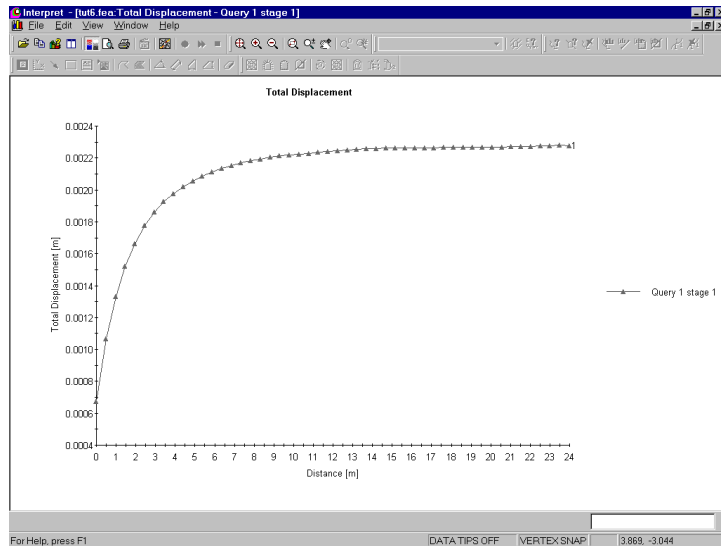

Figure 6-5: Total displacement along length of tunnel.
3. You should see the graph in Figure 6-5. Since we were viewing the Total Displacement contours, we obtained a graph of total displacement vs. distance along the query. The data graphed always corresponds to the contoured data being viewed.